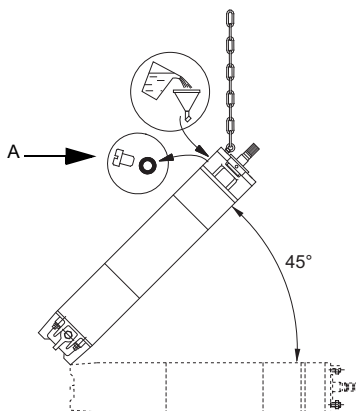

Fig. 5 Motor position during filling, MMS
1. Place the motor at a 45 ° angle with the top of the motor upwards. See fig. 5.